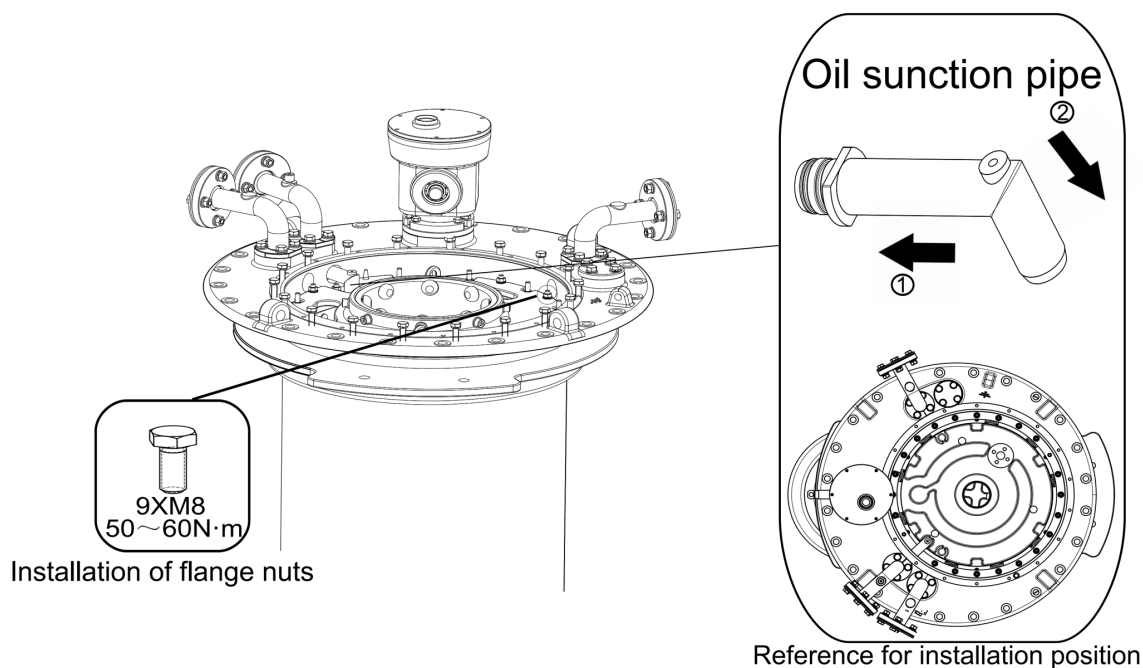

Figure 4.2.15
4.2.6.3 Installation of oil suction pipe: Insert one end of the oil suction pipe into the insert's oil suction pipe positioning hole, and the other end into the bell-type flange oil suction pipe hole. (See Figure 4.2.15)